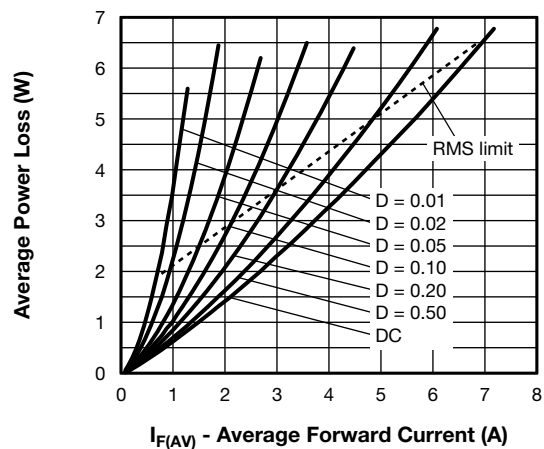

Fig. 6 - Forward Power Loss Characteristics
- (1) Formula used: $T_C = T_J - (Pd + Pd_{REV}) \times R_{thJC}$;
- Pd = forward power loss = $I_{F(AV)} \times V_{FM}$ at $(I_{F(AV)}/D)$ (see fig. 6);